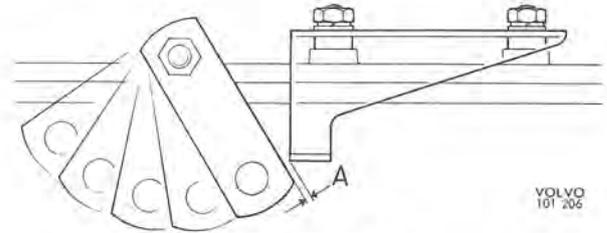

Fig. 4-121. Stop for lever
31. On cars which have six control positions, the stop bracket is fitted as shown in Fig. 4-121. Adjustment is carried out as follows: